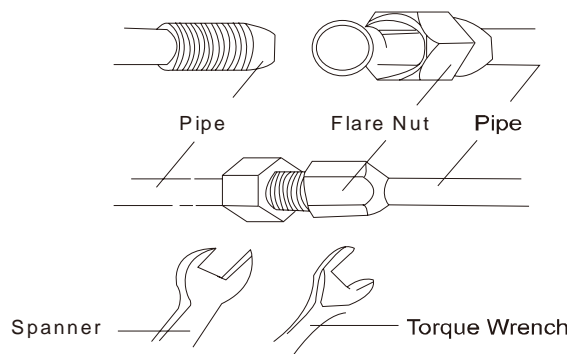

Fig 7
(1) If the liquid and gas stop valves listed as A , B, C, D or E have not been connected to the indoor units, please remove the caps with wrench.
(2) Refer to Fig. 7 for the torque requirements.
(3) Align the flare end of the copper pipe point with the screw and then tighten the screw by hand.
(4) After that, tighten the screw with the torque wrench unit it clicks (as shown in Fig. 7).
(5) Use a pipe tube bender to bend the pipe. If the degree of the pipe bend is too small, it will break.
(6) Wrap the exposed refrigerant pipe and the joints with sponge and then secure them with the plastic tape.